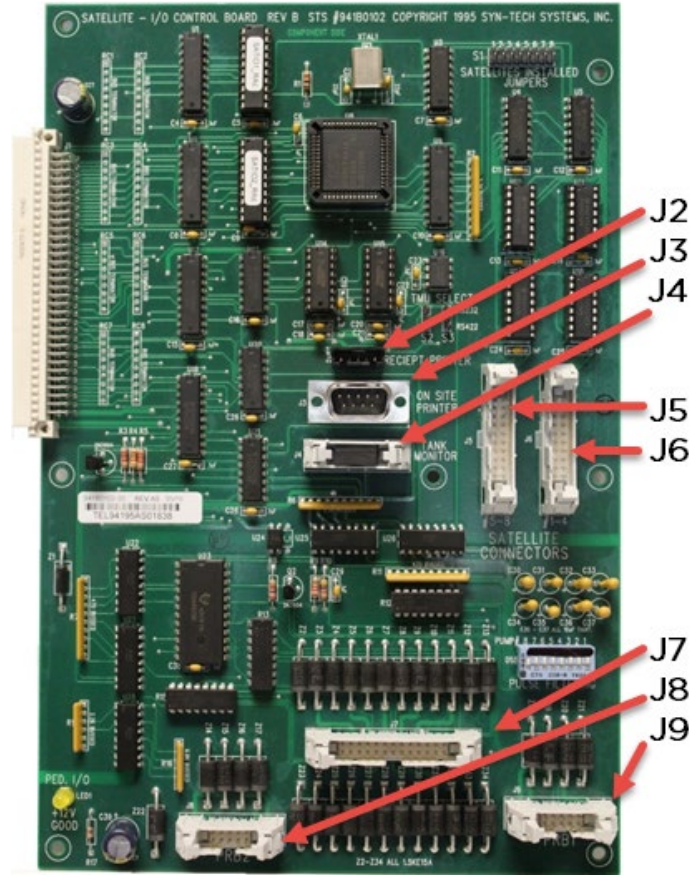

Figure 2 FMU Satellite I/O Board (941B0102)
4. Using manilla labels, label all cables connected to the Satellite I/O Board (Figure 2).